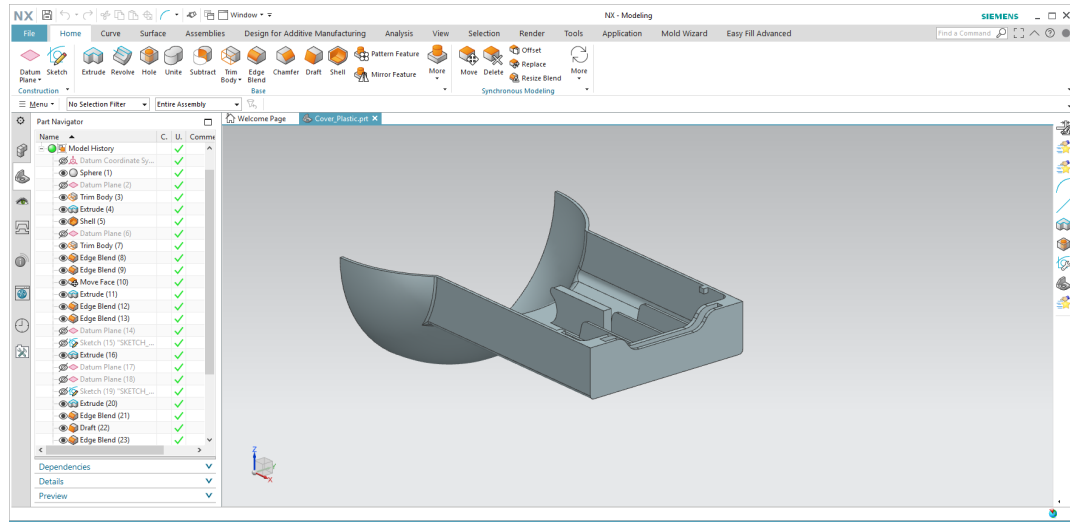

Figure 15-66 Plastic part in Modeling environment
3. Select **Cover\_Plastic.prt** from the **Name** list; **Cover\_Plastic** is displayed in the **File name** drop-down list. Then choose the **OK** button; the model is displayed, refer to Figure 15-66.